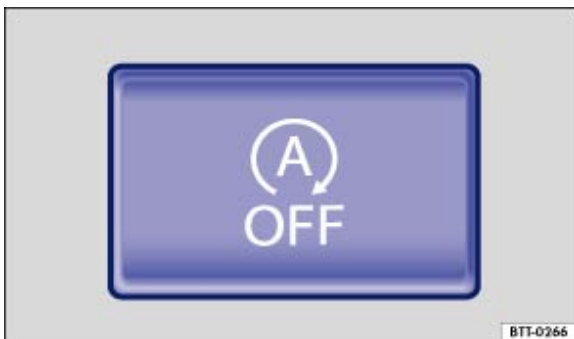

Fig. 152 In the centre console: button for start/stop system
- Press the  button in the centre console → *Fig. 152*.